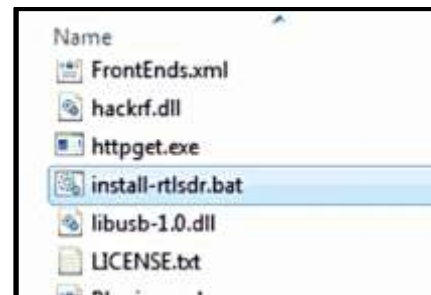

Figure 5 To install SDR# double click on "install-rtlsdr.bat"
3. Double click on install-rtlsdr.bat from within the extracted folder (Figure 5). This will start a command prompt used to download all required drivers. The command prompt will automatically close.